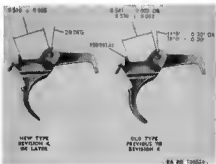

Figure 51. Trigger 6200988.
- (1) A light or heavy trigger pull may be caused by foreign matter or burrs in the sear notch in the hammer, on the nose of the sear, on the top of rear end lip of trigger where the rear end of sear rests, or in the elongated pivot hole in the sear from seating fully in hammer notch. To correct, remove foreign matter or replace with new components from stock.
- (2) A light pull may also be due to a weak or broken sear spring which will not set the sear fully in the hammer notch before the pressure from hammer spring is applied to the nose of sear through the hammer. Correct by replacing sear spring.
- (3) Uneven surface of hammer notch or worn nose of sear may alter trigger pull. Correct by replacing sear or hammer.
d. *Trigger Hang.* Triggers of early manufacture had a 4- or 8-degree angle on the forward face of the pedestal which was conducive to trigger hang. When trigger hang exists, and it is not due to malfunction of the trigger spring, it can be eliminated by replacing the trigger with one of recent manufacture having an angle of 20 degrees on the forward face of the pedestal (Fig. 51). Surface must be smooth.